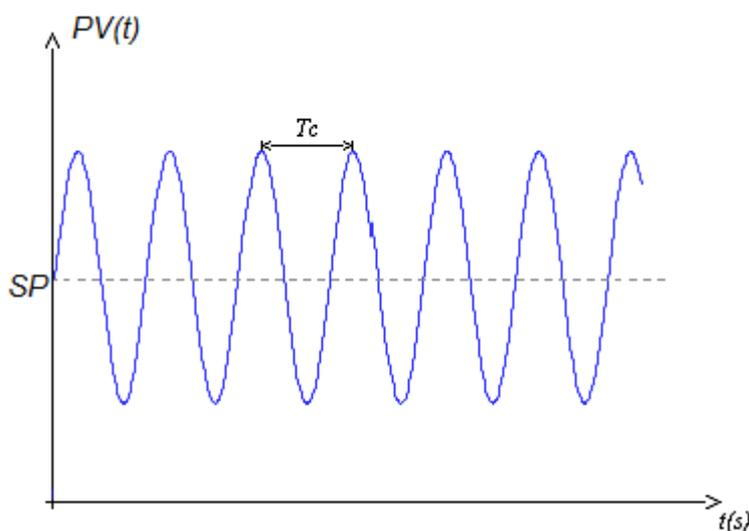

Figure 6-23. Oscillations with Constant Amplitude
- Increase the proportional gain with small increments. After each increment insert a small system disturb on the system using a small step on the set point (SP)
- To verify the behavior of the system (PV), the oscillation amplitude must increase as the gain increases. The critical gain (G_{Pc}) will be which generates oscillations with constant amplitude (or almost constant) according the Figure 6-23